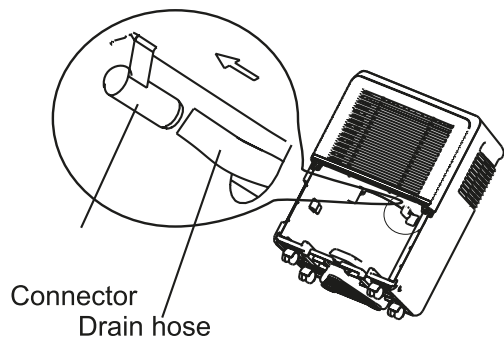

FIG. 9
- Remove the plastic cover from the back drain outlet of the unit and set aside and remove bucket, then insert the drain hose through the drain outlet of the unit and securely press it into the connector on the front of the unit. (See Fig. 9)